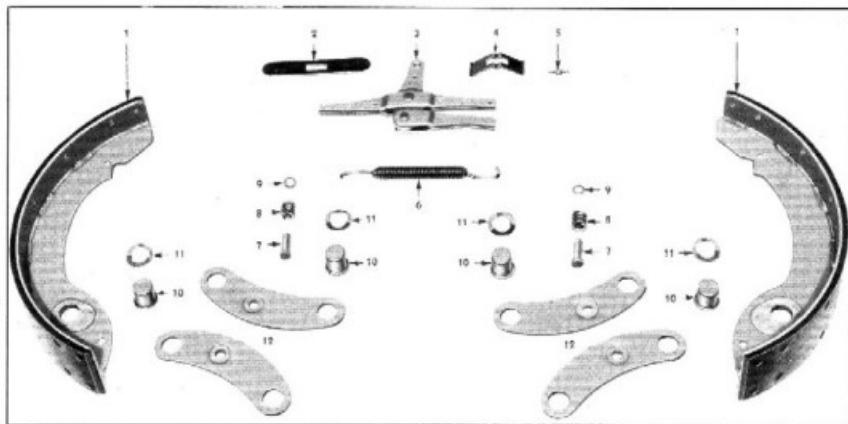

Fig. 17—Layout of Rear Wheel Brake Parts—1½-Ton Trucks
- The illustration, Fig. 17, shows a layout of the 1½ ton truck rear brake parts.